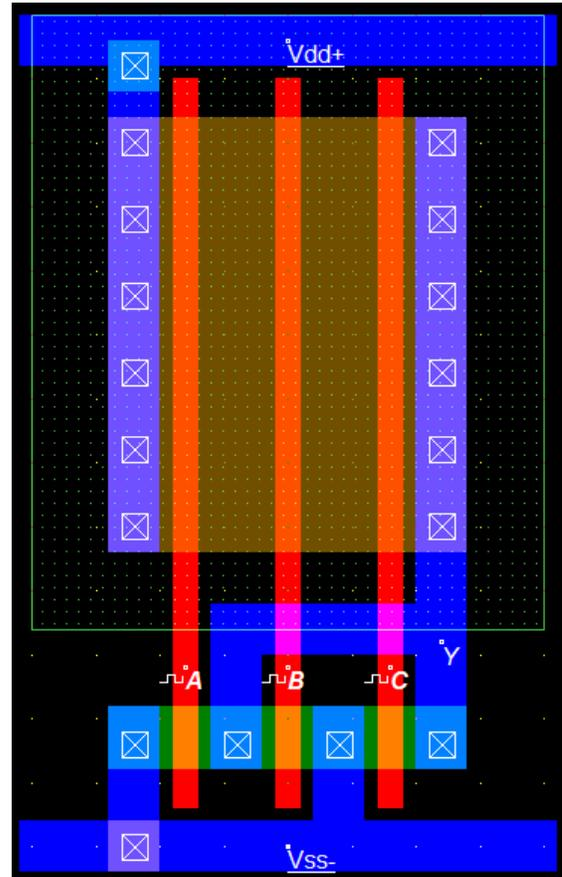

Figure 10
Then place appropriate input (clock) signals on polysilicon fingers, and VDD and GND on rails. Lastly, place a “Visible node” on output (Y) terminal. The final layout of CMOS NOR3 is depicted in Fig. 10.